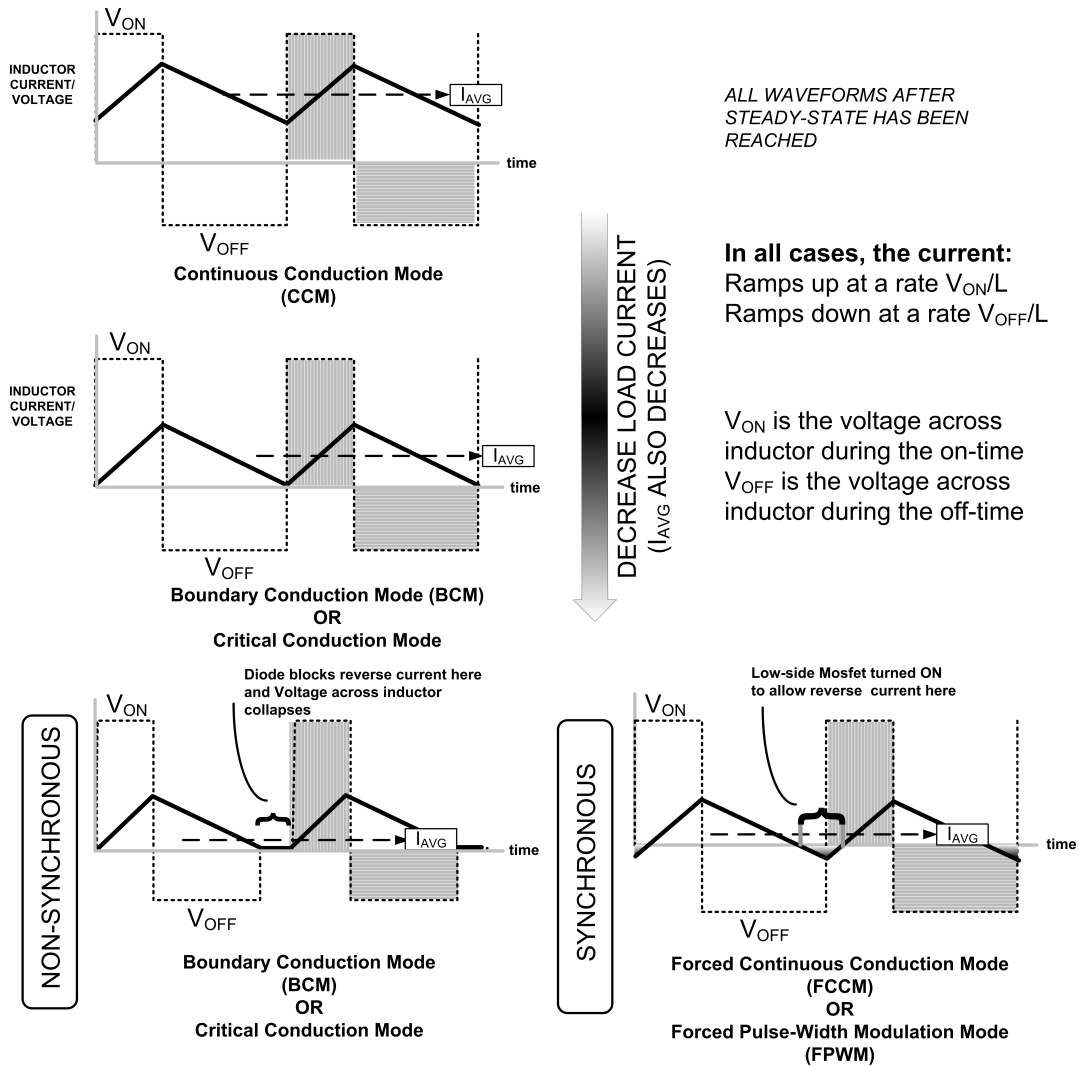

Figure 1-9: Different Operating Modes of Switching Regulators
Note that the inductor equation, and thereby the definition of ‘steady state’, refers only to the *increase/decrease* in current — it says nothing about the actual (absolute) value of the current at the start (and end) of every cycle. So there are in fact several possibilities. We could have a steady state in which the current returns to *zero* every cycle, and this is called a ‘discontinuous conduction mode’ (DCM). However, if the current stays pegged at some non-zero value throughout, we will have ‘continuous conduction mode’ (CCM). The latter mode is the most common mode of operation encountered in power conversion. In *Figure 1-9* we have graphically shown these operating modes (all in steady state). We also have some other modes that we will talk about very soon. Note that in the figure, the “square” waveform is the voltage across the inductor, and the slowly ramping waveform is the inductor current. Let us make some related observations:
- d) A key question is — what is the exact relationship between the average *inductor* current and the *load* current? We will soon see that that too depends on the specific *topology*. However, in all cases, the average inductor current (“ $I_{AVG}$ ” or “ $I_L$ ”) is proportional to the load current (“ $I_O$ ”). So if for example  $I_O$  is 2 A and  $I_{AVG}$  is 10 A, then if  $I_O$  is decreased to 1 A,  $I_{AVG}$  will fall to 5 A. Therefore on decreasing the load current, we can get  $I_{AVG}$  to decrease, as indicated in *Figure 1-9*.
- g) Note that in all the cases shown in *Figure 1-9*, with the exception of DCM, the average inductor current  $I_{AVG}$ , is just the *geometrical center of the ramp* part of the current waveform. In DCM however, we have an additional interval in which there is *no current* passing for a while. So, to find the average value of the inductor current, a rather more detailed calculation is required. In fact that is the primary reason why *DCM equations turn out looking so complicated* — to the point that many engineers seem to rather instinctively ignore DCM altogether, despite some advantages of operating a converter in DCM instead of CCM.
- h) What really is the average inductor current “ $I_{AVG}$ ” as shown in *Figure 1-9*? A nice way to understand this parameter is through the “car analogy”. Suppose we press the gas pedal of a car. The car responds by increasing its speed. In an analogous fashion, when we apply a voltage across an inductor (the on-time voltage “ $V_{ON}$ ”), the current ramps up. Subsequently, suppose we press on the brakes of the car. The car will then respond by decreasing its speed. Similarly, when the applied voltage is removed from the inductor, voltage reversal occurs, and an induced voltage (the “brakes”) appears across the inductor, “ $V_{OFF}$ ”. Since it is in the opposite direction as  $V_{ON}$ , it causes the current to ramp down. So now, if we press the gas pedal ( $V_{ON}$ ), followed by the brakes ( $V_{OFF}$ ), in *quick succession*, and with the right timing, we could still make the car continue to move forward despite the constant lurching. It would then have a certain *average speed* — depending on the ratio of the gas pedal duration and the subsequent braking duration. In power conversion, this “lurching” is analogous to the ‘current ripple’  $\Delta I = \Delta I_{ON} = \Delta I_{OFF}$ . And quite similarly, we have an ‘average inductor current’  $I_{AVG}$  too, as shown in *Figure 1-9*. However, we do understand that in a power converter, the output capacitor eventually absorbs (or smoothens) this “lurching”, and thus manages to deliver a steady dc current to the load as desired.
manage to significantly reduce the conduction loss in the freewheeling path, but we can also now allow *reverse inductor current* — i.e. current moving instantaneously away from the load. However note that the average inductor current could still be positive — see *Figure 1-9*. Further, with negative currents now being “allowed”, we no longer get DCM on reducing output power, but rather enter FPWM/FCCM as described in the figure.
That also means that if we plot the inductor voltage versus time, *the area under the voltage curve during the on-time must be equal to the area under the voltage curve during the off-time*. But we also know that *voltage reversal* always occurs in steady state. So clearly, these two areas must have the opposite sign. See the vertically and horizontally hatched segments in *Figure 1-9*.
At this point we should be very clear how we are defining “*tOFF*” in particular. While applying the voltseconds law, we had implicitly assumed that *tOFF* was *the time for which the induced voltage VOFF lasts*, not necessarily the time *for which the switch is OFF* (i.e.  $T - t_{ON}$ ). In DCM they are **not** the same (see *Figure 1-9*)! Only in CCM do we get